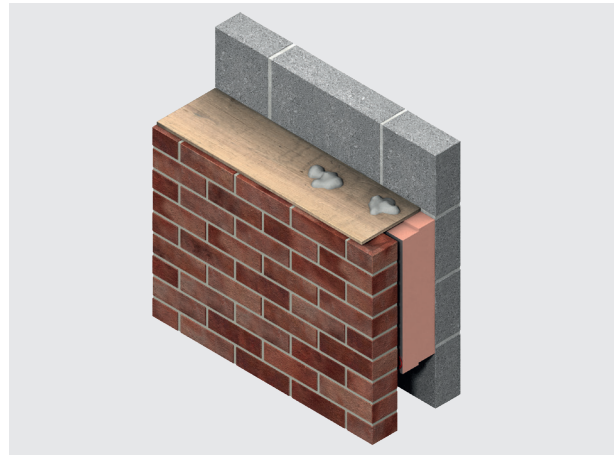

Figure 9 - Use of a cavity board to protect the cavity and insulation board top edge
- Use of a cavity batten or cavity board is recommended to protect board edges and maintain a clear cavity (see Figures 9 & 10).